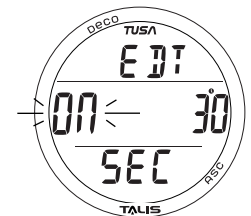

Fig. 92 - SET EDT ALARM
**Set EDT Alarm**, information includes (Fig. 92):